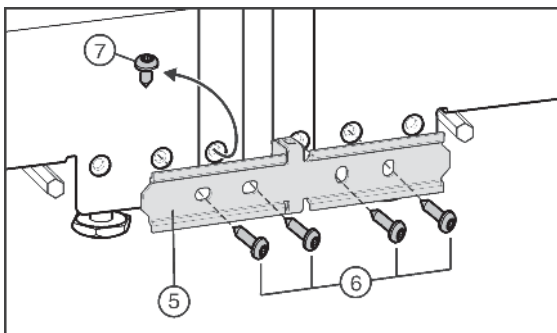

Fig. 24
- ▶ If your appliance has been fitted with the pre-fitted screw Fig. 24 (7): Undo the screw.
- ▶ Fix the connecting sheet Fig. 24 (5) loosely to one appliance with two screws Fig. 24 (6).